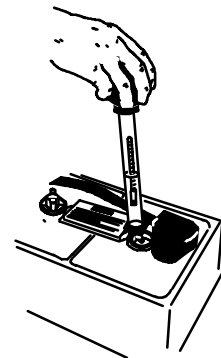

FIG. 56
1. Check the specific gravity using a hydrometer to determine the charge level and the condition of the batteries (Figure 56). If one or more of the battery cells read lower than the other battery cells (0.050 or more), the cell is damaged, shorted, or is about to fail. Check the hydrometer readings against the following chart to determine the remaining battery charge level.